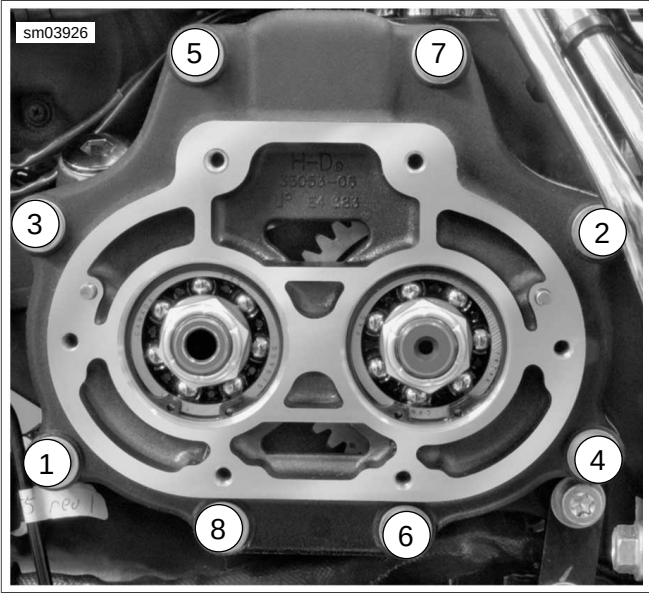

Figure 6-33. Bearing Housing Hardware Torque Sequence
6. See Figure 6-33. Tighten all bearing housing hardware in the sequence shown to 23-25 ft-lbs (31.2-33.9 Nm).